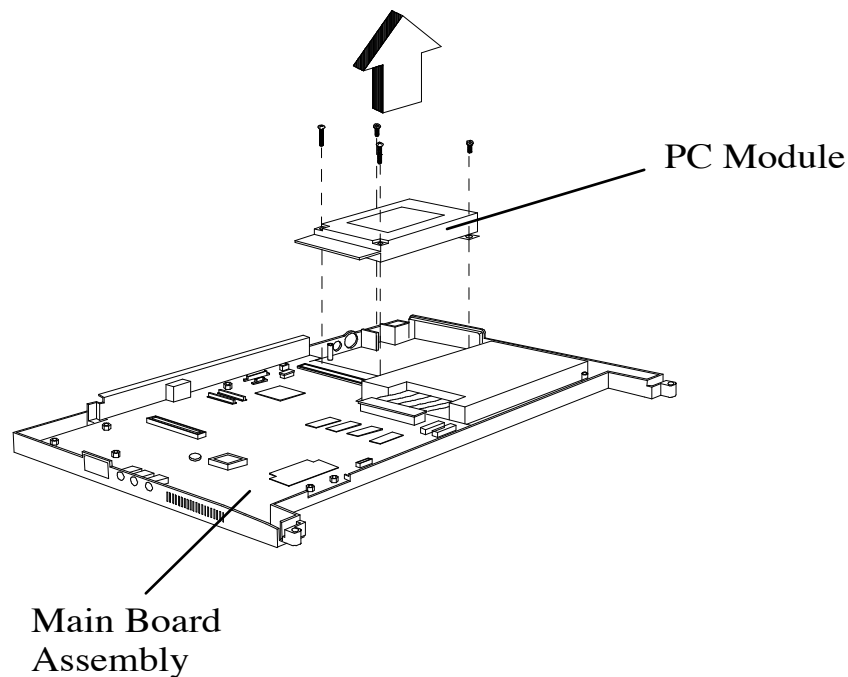

Figure 6-19 Removing/Replacing the PC Card Module
5. Remove the four screws that secure the PC Card Module to the Main Board (refer to Figure 6-19).